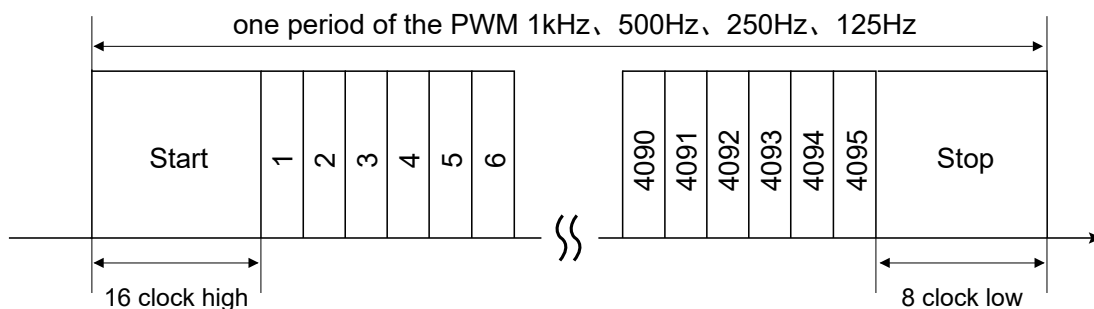

Figure 7. PWM output signal
TMR3110 supports pulse width modulation (PWM) output. The duty cycle of PWM is a logic signal proportional to the magnetic field angle. The duty cycle is limited by the minimum value (1/4096 of the period) and the maximum value (4095/4096 of the period), so the duty cycle varies from 1/4096 to 4095/4096 with the resolution of 12-bits, Figure 7 shows one period of the PWM signal, and the period (T) is 1/FPWM.